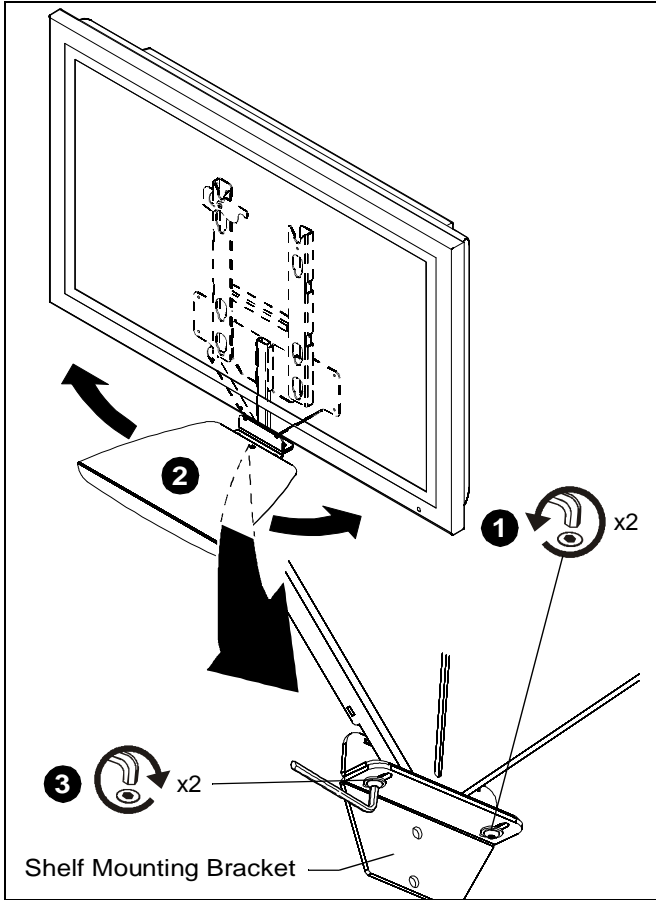

Figure 5
1. Loosen two button head cap screws securing shelf mounting bracket to shelf vertical adjustment bracket using 1/8" hex wrench (G) provided. (See Figure 5)
3. Tighten two button head cap screws securing shelf mounting bracket to shelf vertical adjustment bracket using 1/8" hex wrench (G) provided. (See Figure 5)